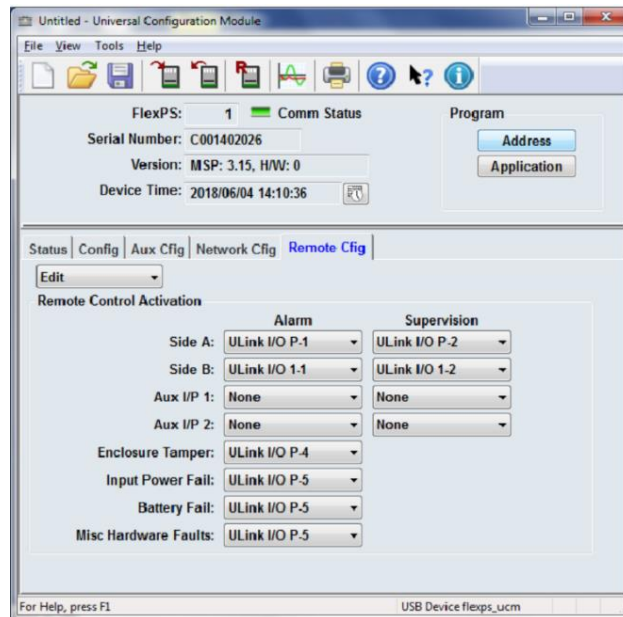

Figure 15 Typical FlexPS Remote Configuration
3. For transponders other than UltraLink I/O, set the Remote configuration (see Figure 15).
Figure 15 shows a typical UCM alarm zone setup for a FlexPS sensor.